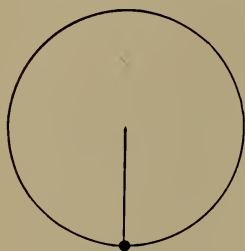

FIGURE 281. — CENTRIFUGAL FORCE.
**302. Centrifugal Force.** — Any body moving in the circumference of a circle (Figure 281) tends to fly away from the center. This is due to Newton's first law of motion. Explain.